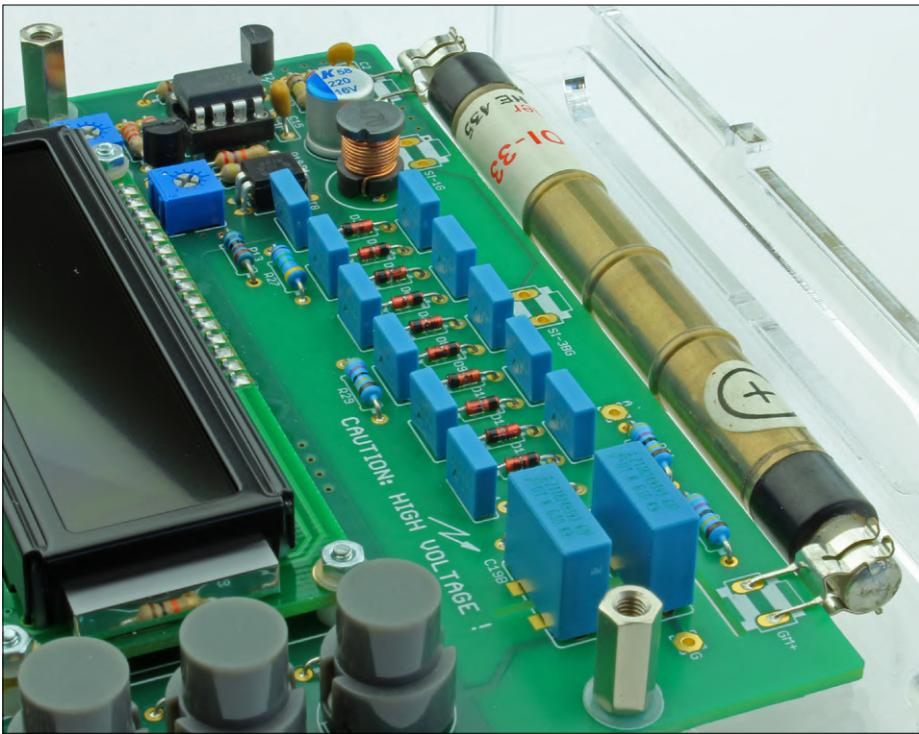

Figure 5: The high-voltage supply powers the Geiger-Müller tube.
Figure 5. A contact transition starts a timer. The main program loop ignores the contact while the timer is running. The state of the contact is read again when the timer expires, i.e. when contact bouncing is expected to be over.
The high-voltage (HV) supply is built around a 7555 timer IC. It is a step-up converter followed by an HV cascade that multiplies the output voltage by a factor of six (**Figure 5**). To get a voltage that's as clean as possible, the output of the